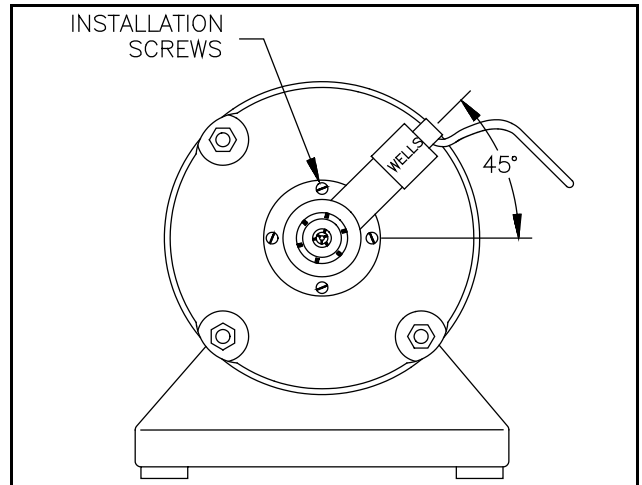

Figure 10. End view
- 6.1 Confirm that the handle is in the shipping position. Fasten the Quick Chuck to the adapter using the four installation screws. See Figure 10.